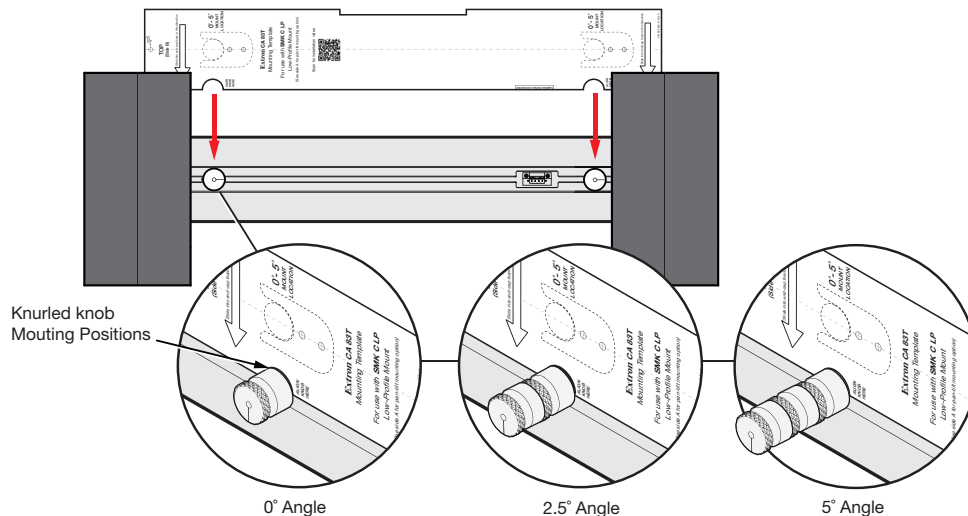

Figure 8. Align and Secure Speaker Bracket Assembly
6. To add tilt, screw one or both 2.5° Extension Knobs onto the desired Primary Knob (see figure 8).